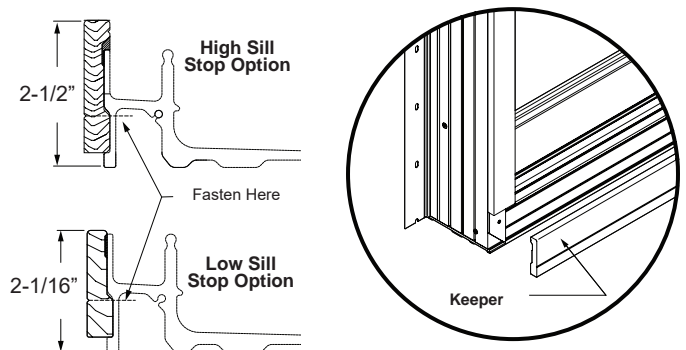

Figure 39
39. Attach sill stop to sill using 1-1/4" Braid Nails, placed 8-10" apart, through the locator line on the stop (Fig. 39).